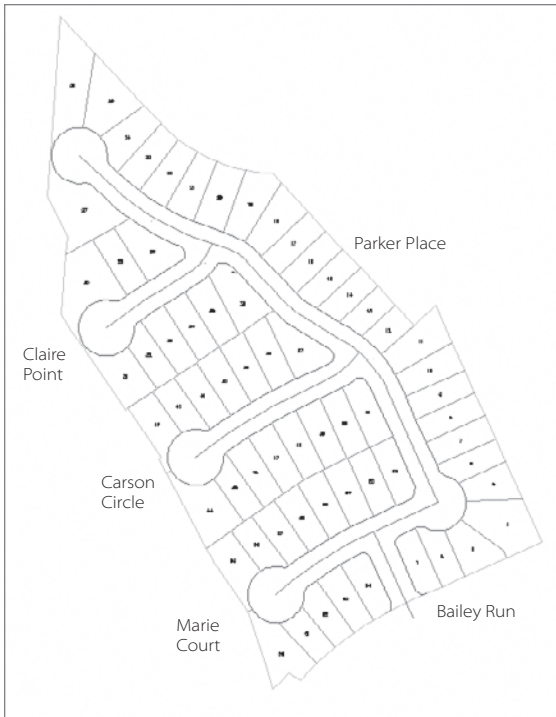

Figure 8.1
1. Open the `Converting Alignments.dwg` file. (Remember, all the data for this book can be downloaded from www.sybex.com/introducingcivi13d2009.) Figure 8.1 shows the layout and the street names you'll be referring to in this series of exercises.
To practice converting this method a few more times, convert the three other major streets in the subdivision using the same commands and settings. Be sure to change the names as previously shown in Figure 8.1. When you’re done, your drawing should look something like Figure 8.3.